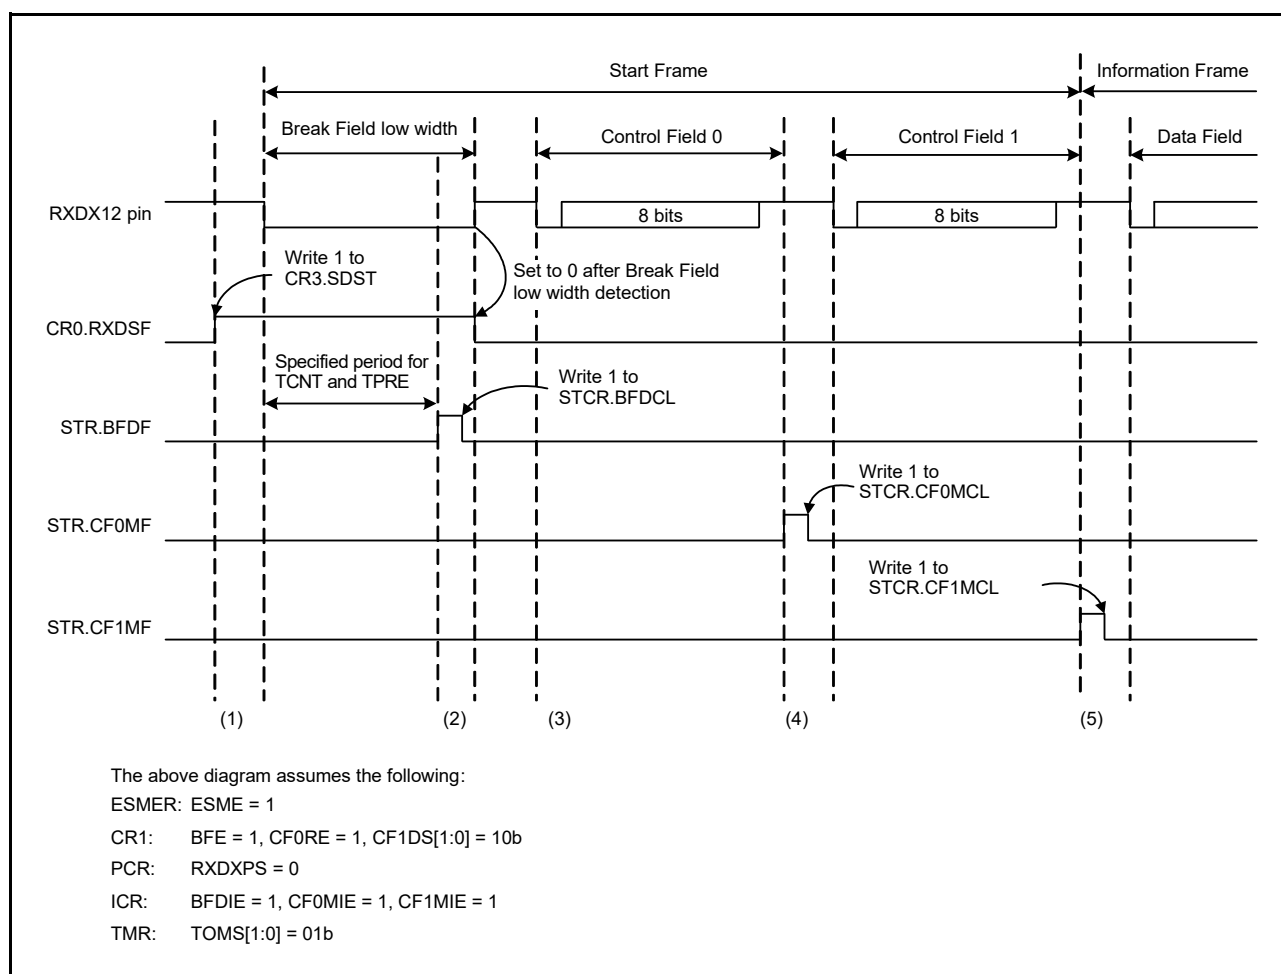
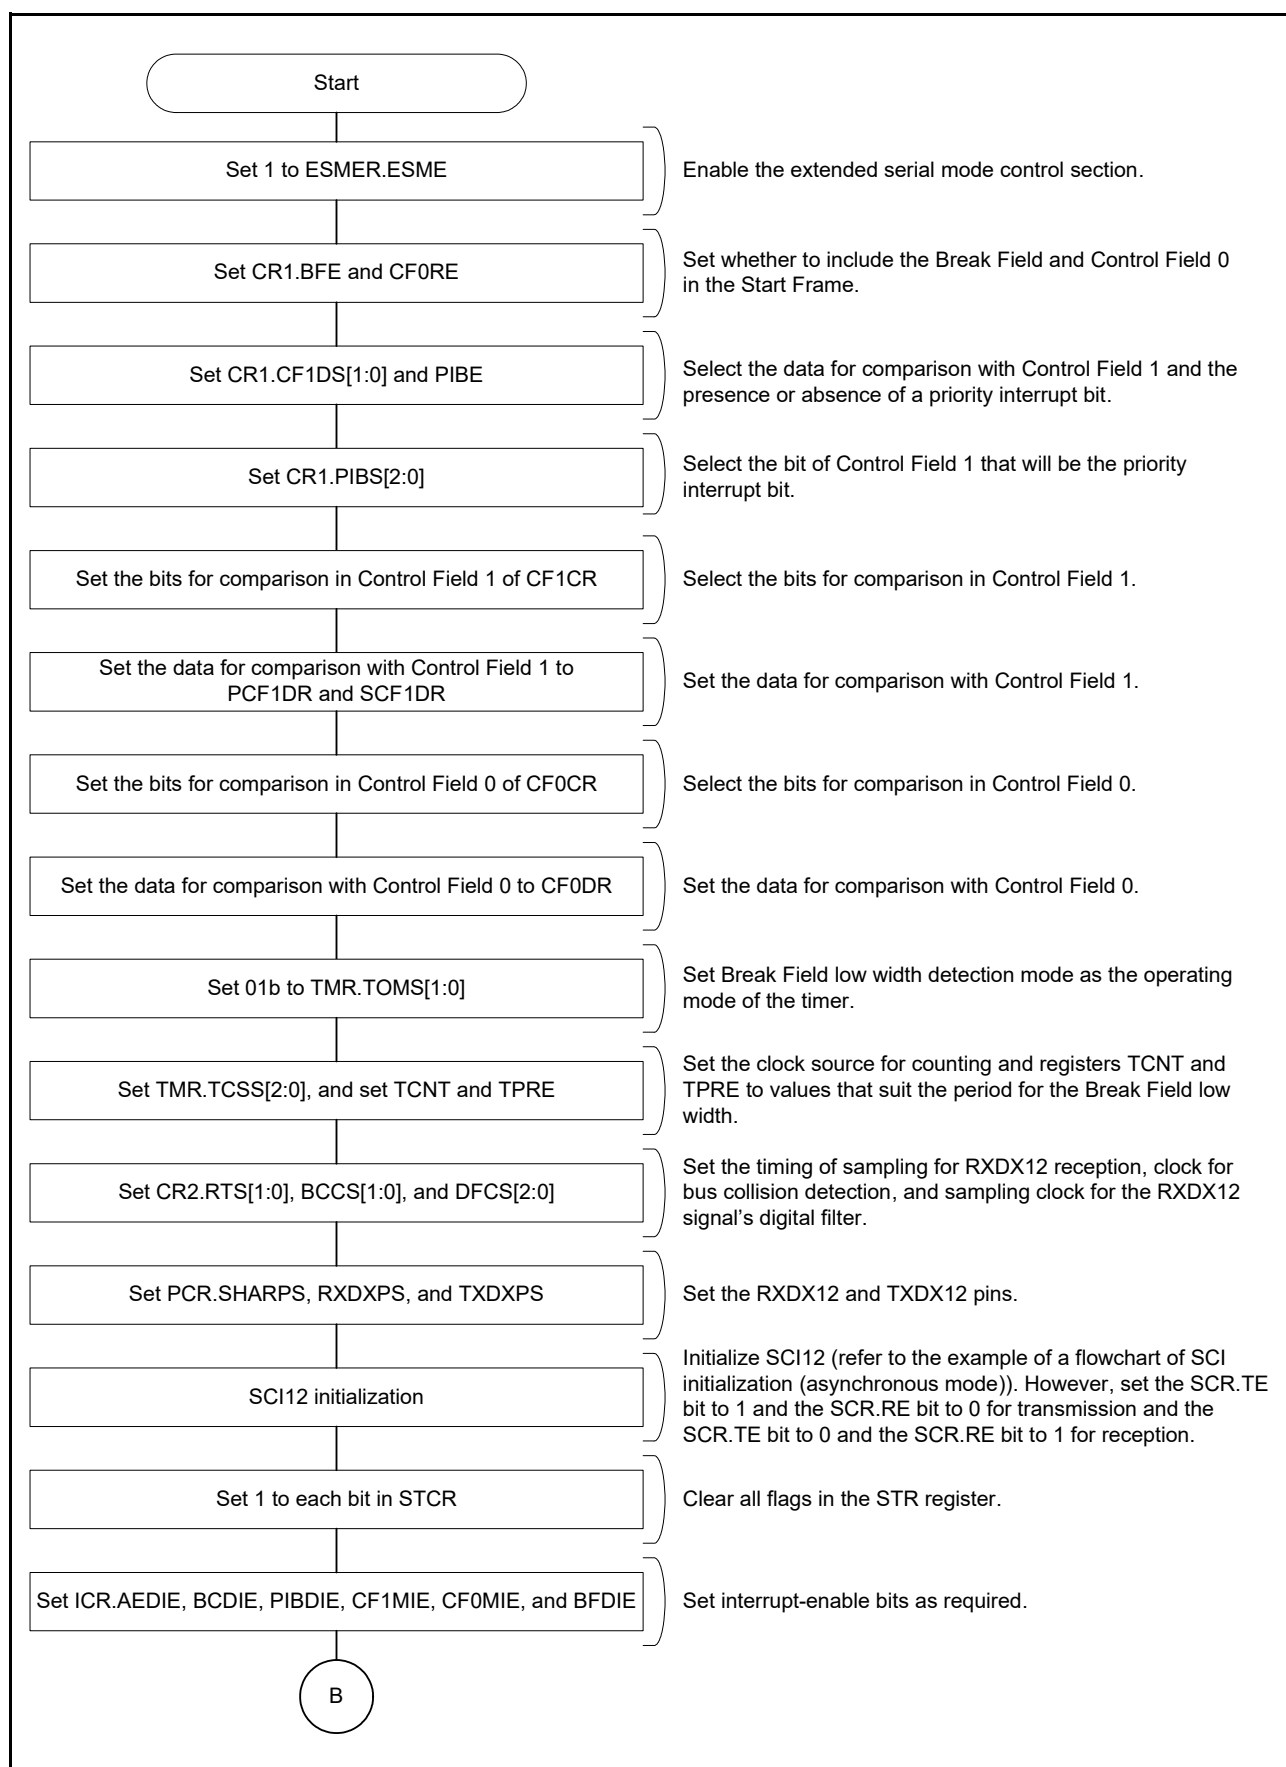

Figure 41.68 Example of Operations at the Time of Start Frame Reception
Figure 41.69 Sample Flowchart for Reception of a Start Frame (1)
Figure 41.68 shows an example of operations to receive a Start Frame, which is composed of the Break Field low width, Control Field 0, and Control Field 1. Figure 41.69 and Figure 41.70 are flowcharts for the reception of a Start Frame, and Figure 41.71 is a state transition diagram when receiving a Start Frame.
Steps (1) to (4) are the same as in Figure 41.68, for Start Frame reception.
- (5) If the value of the bit selected by the CR1.PIBS[2:0] bits matches the corresponding bit in the PCF1DR register, the STR.PIBDF flag is set to 1. An SCIX1 interrupt is also generated if the value of the ICR.PIBDIE bit is 1. Transfer of the Information Frame starts after that. If the data received in Control Field 1 do not match the data set in either or both of registers PCF1DR and SCF1DR and the priority interrupt bit is not detected, a transition to the state prior to Break Field low width detection proceeds.